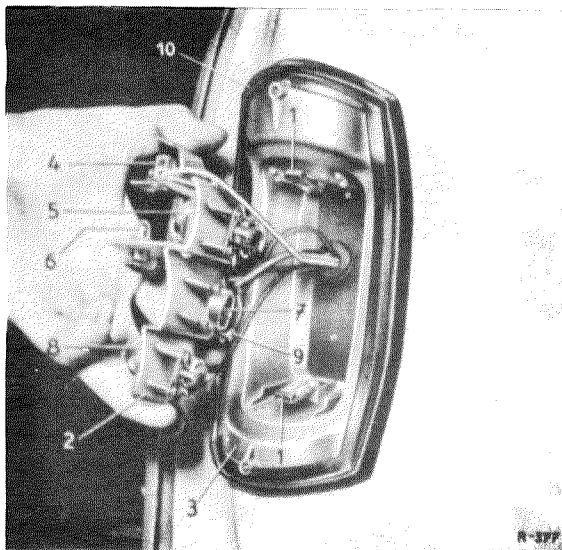

Fig. 82—13/1
Note: The base plate (2) is held in place in the housing (3) by the two springs (1) (Fig. 82—13/1).
the grey/black cable (Lead No. 49) to the tail light (4) (see Fig. 82—13/1),
the grey cable (Lead No. 48) to the tail light (4) (see Fig. 82—13/1),